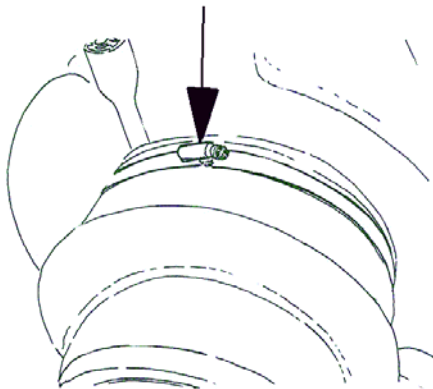

Figure 3 Install New Hose Clamp (Arrow)
3. Install new hose clamp, Part Number 576183C1, by unscrewing the hex bolt, separating the metal band, and reassembling the hose clamp around the air cleaner hose (Figure 3). Tighten the hose clamp.